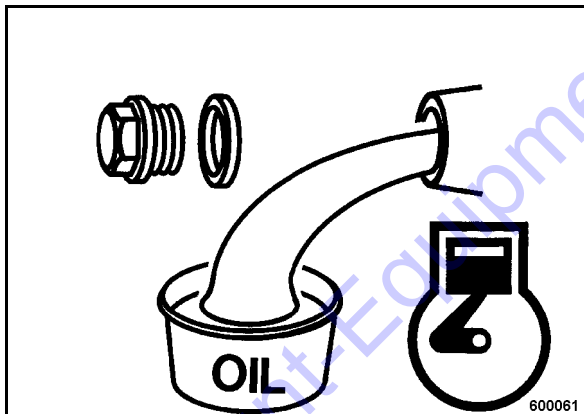

Fig. 50
- Unscrew the oil drain plug (Fig. 50), let the old oil run out and catch it.